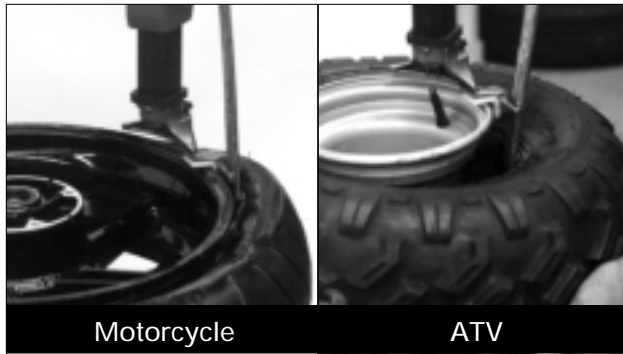

Figure 9 - Insert Bead Lifting Tool
- Insert the smooth curved end of the bead lifting tool over the forward end of the demount head and below the top bead of the tire. Use your free hand to press down on the tire opposite the head to help with tool insertion (Figure 9).